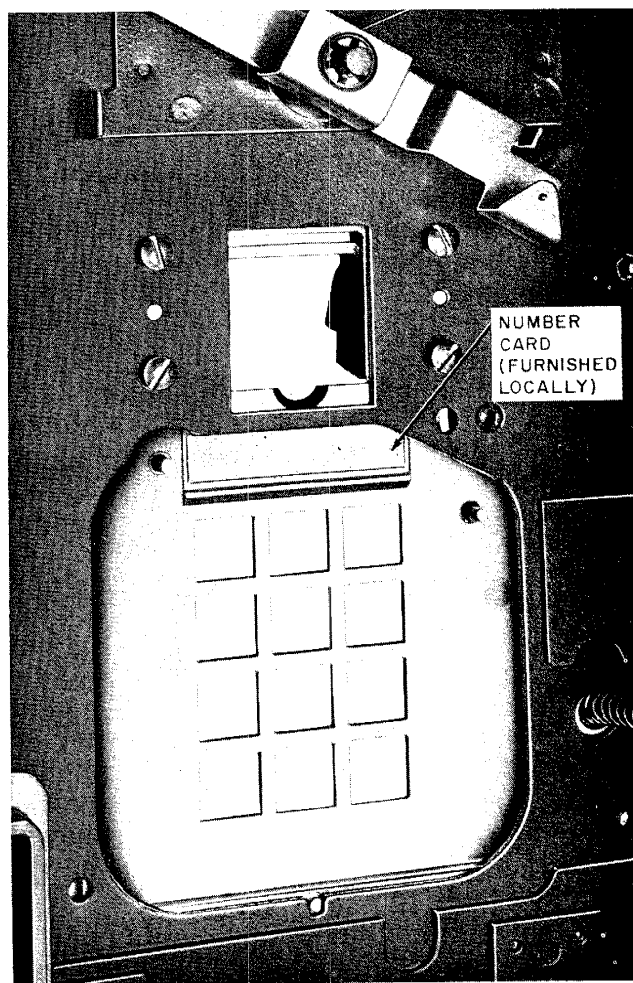

Fig. 15—Number Card Installed in Window (1A2)
- (c) Insert number card in window (Fig. 15).